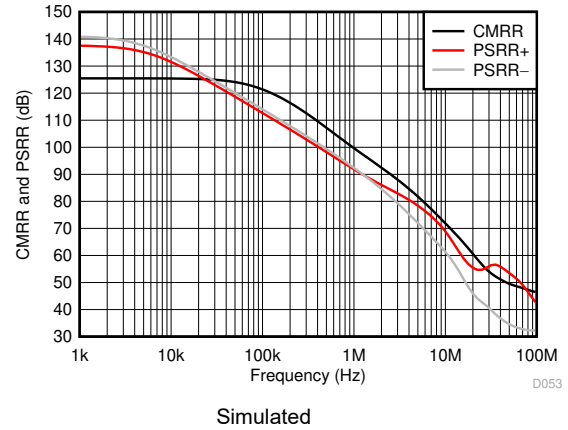

图 7-52. CMRR and PSRR vs Frequency
- CMRR and PSRR vs frequency; see Figure 7-52.